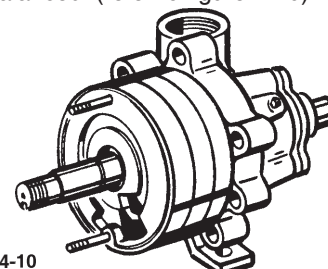

Figure 4-10
- Make sure that the fins on the interstage bushing fit into the slots in the bore of the ring. Now slide on the next left hand channel ring with the water channel facing up. However, this time, place the inlet opening in the five o'clock position. By positioning each successive stage 180 degrees from the last, hydraulic loads are radially balanced. (refer to figure 4-10)